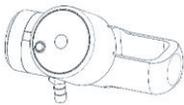

Figure 3: Critical Alert Universal Installed on a Post Valve Regulator
- While holding the base of the gauge, pull the upper housing up away from the held point to expose the battery board. (Refer to **Figure 3**)